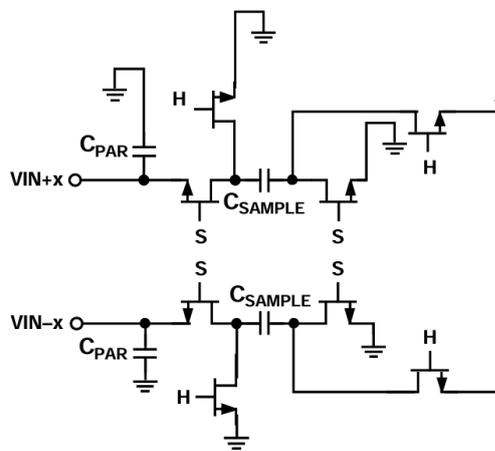

Figure 15. Switched capacitor input circuit
The input circuitry switches between sample and hold modes based on the clock signal (see Figure 15). When the input circuitry switches to sample mode, the signal source must be able to charge the sampling capacitor and complete the build-up within half a clock cycle. A small resistor is connected in series at each input to help reduce peak transient current injected from the driver output stage. Furthermore, low-Q inductors or ferrite beads can be used on each side of the inputs to reduce the high differential capacitance at the analog inputs, thereby maximizing the ADC's bandwidth. Low-Q inductors or ferrite beads must be used when driving the converter front end at high-frequency (HF). A differential capacitor or two single-ended capacitors can be used at the inputs to provide a matched passive network. This ultimately forms a low-pass filter at the inputs to limit unwanted broadband noise.